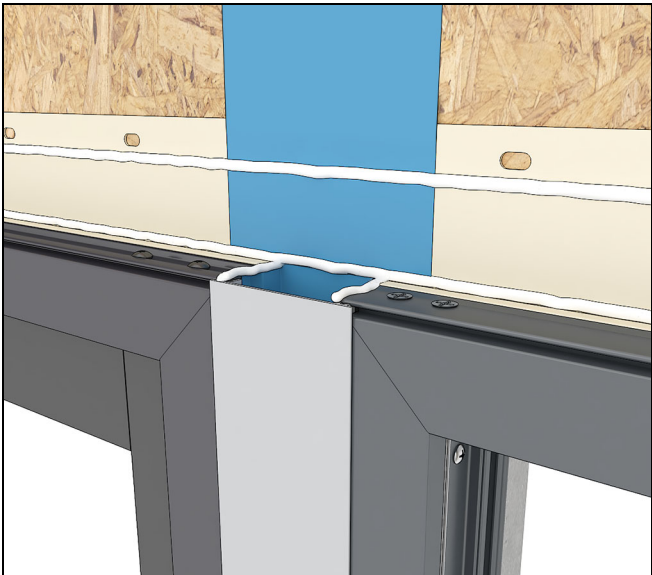
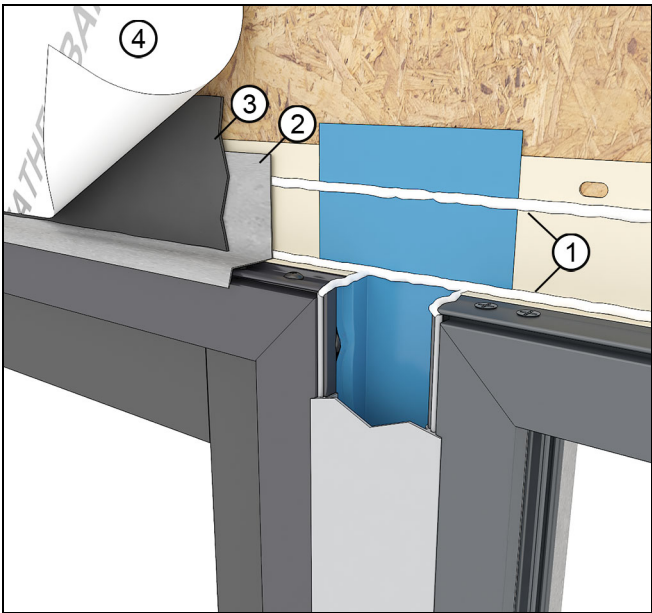

Figure 8
Figure 9
2. Follow the door/window installation instructions on proper flashing techniques. Flash the jambs, apply sealant and a rigid head flash, then apply adhesive flashing to the head jambs. See Figure 8, Figure 9, and Figure 10.